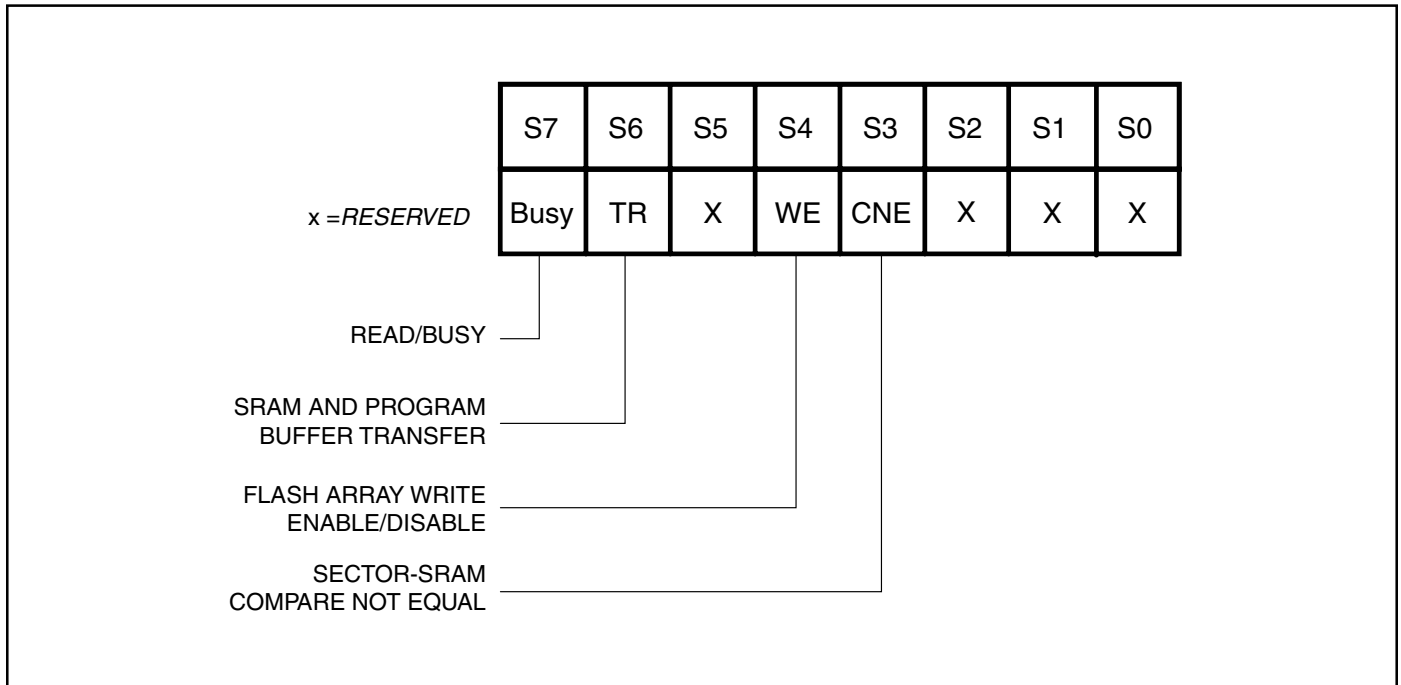

Figure 8. Status Register Bit Locations
The Status Register provides status of the Flash array’s Ready/Busy condition (R/B), transfers between the SRAM and program buffer (TX), Write-Enable/Disable (WE), and Compare Not Equal (CNE). The register can be read using the *Read Status Register* command (Figure 8).